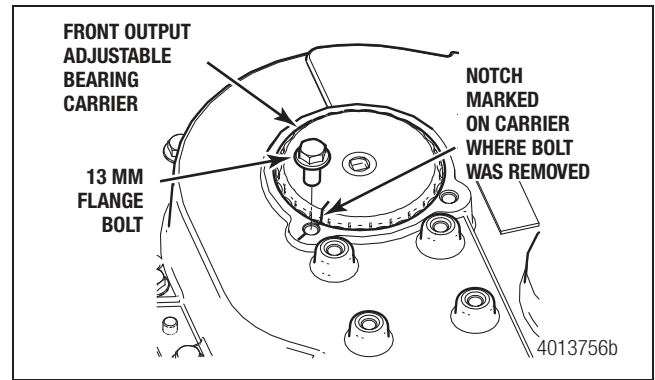

Figure 11.2
4. Beginning with the front output adjustable bearing carrier, mark the exact notch/position of the case and carrier where the 13 mm retaining flange bolt is located. With the carrier to case position marked, remove the 13 mm retaining flange bolt. DO NOT rotate the carrier until AFTER the reference mark has been made. Figure 11.2.